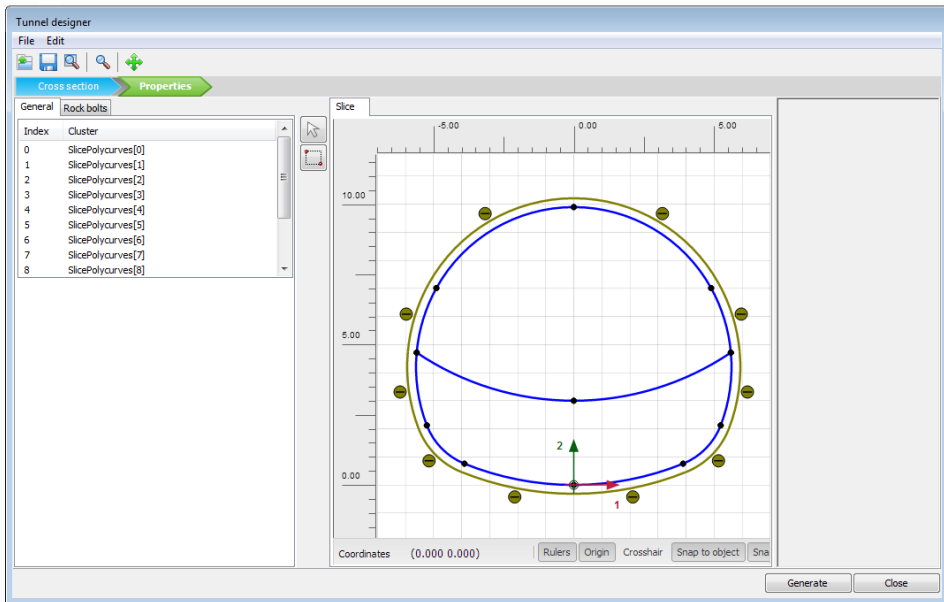

Figure 6.4 Final tunnel
- Assign negative interfaces to the lines defining the shape of the tunnel (not the excavation levels). The final tunnel view in the *Tunnel designer* window is given in Figure 6.4.